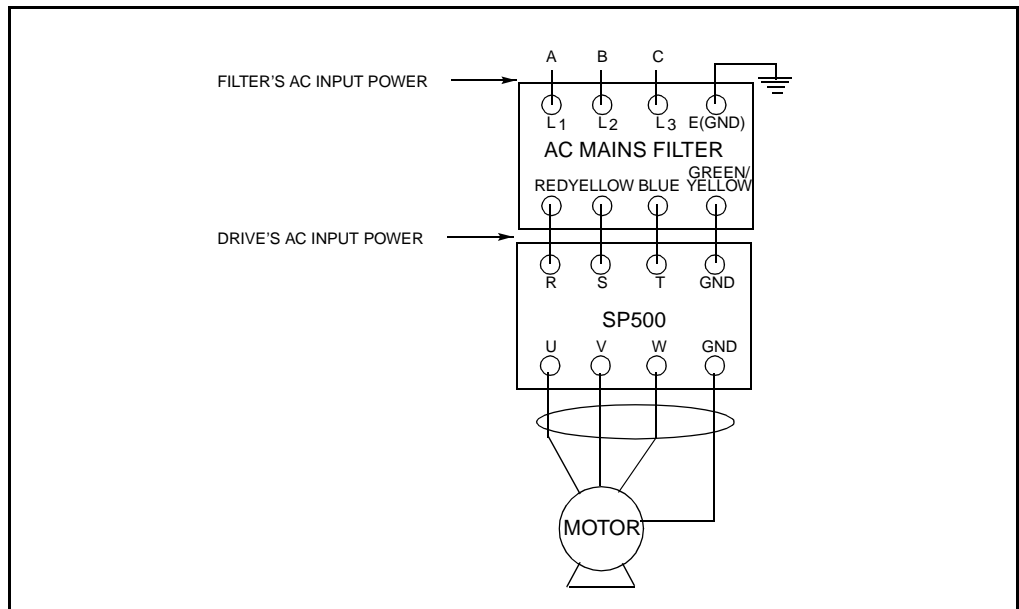

Figure E.3 - Typical SP500 Three-Phase Connections
- When the drive is connected to three-phase AC input power, the three output leads from the filter should be connected to the drive's AC input power terminals as shown in figure E.3.